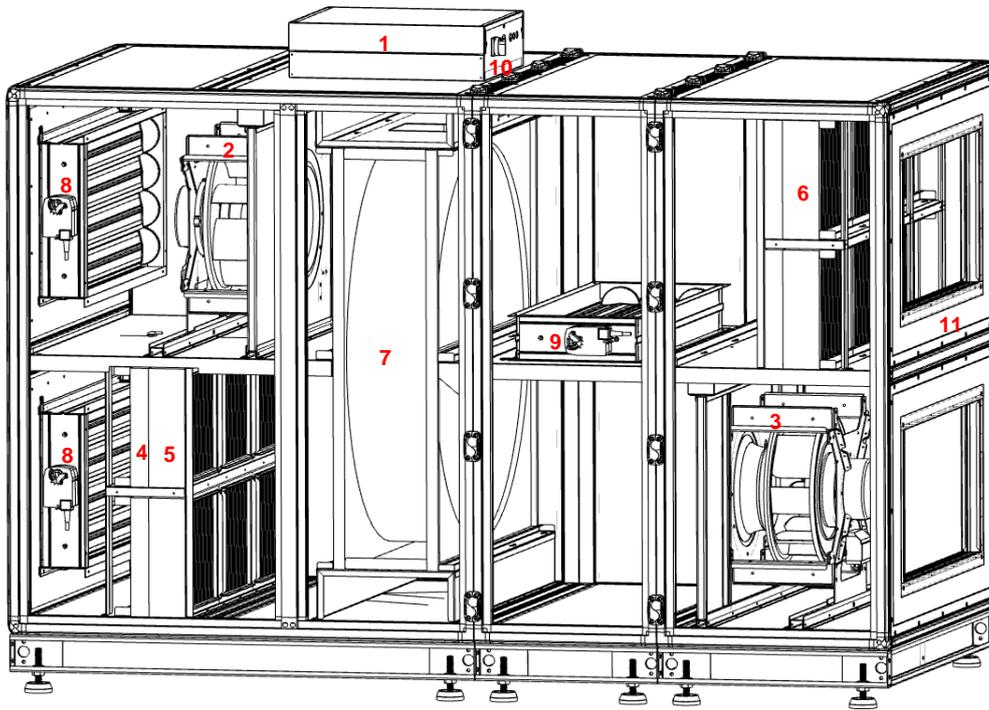

Fig. 22
- Sectional view of standard unit including internal accessory (Fig. 22)